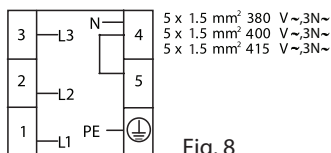

Fig. 8
- This appliance must be connected on a 3-phase mains. See Figure 8.
- There is a label showing the wiring diagrams on the underside of the appliance (Fig. 8).